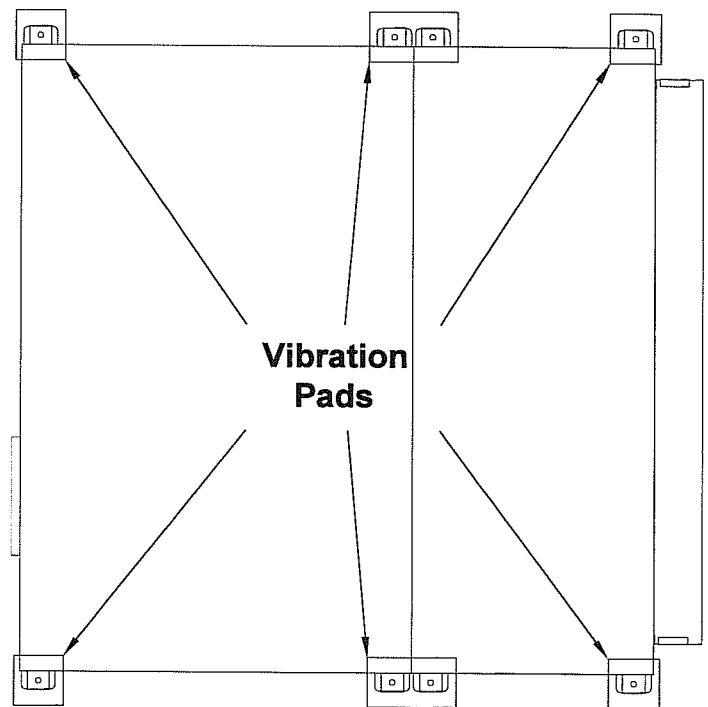

FIGURE 6 – Vibration Pads (Horizontal)
2. Figure 6 – Vibration Pads (Horizontal) shows the recommended points for vibration absorbent pads (field provided). We recommend the use of a minimum 1" thick Neoprene vibration absorbent pad under each point shown in Figure 6. Small cabinets 1-3 Ton only require the pads under the corners only not the middle.